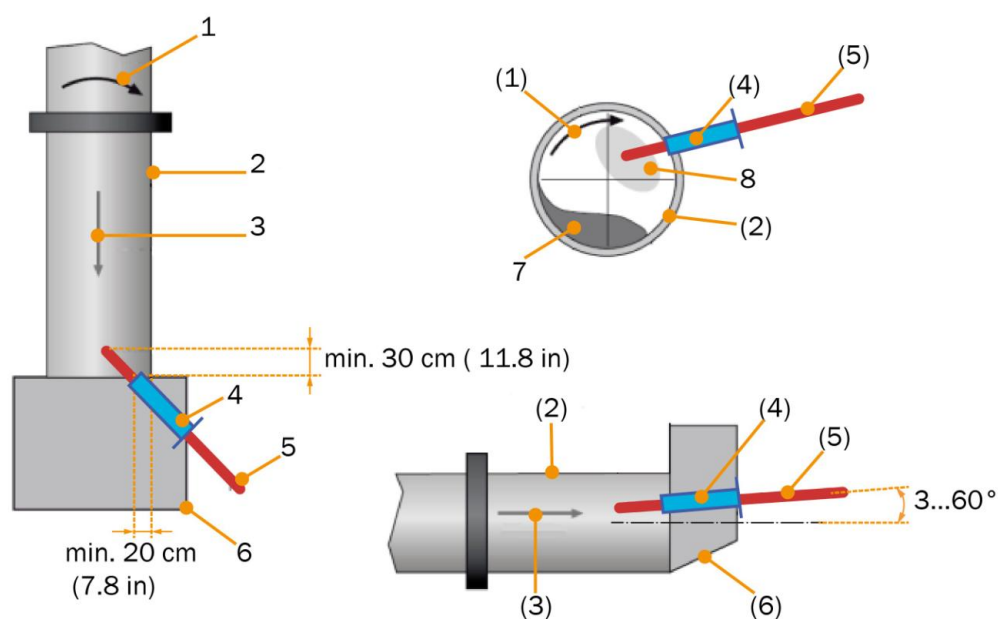
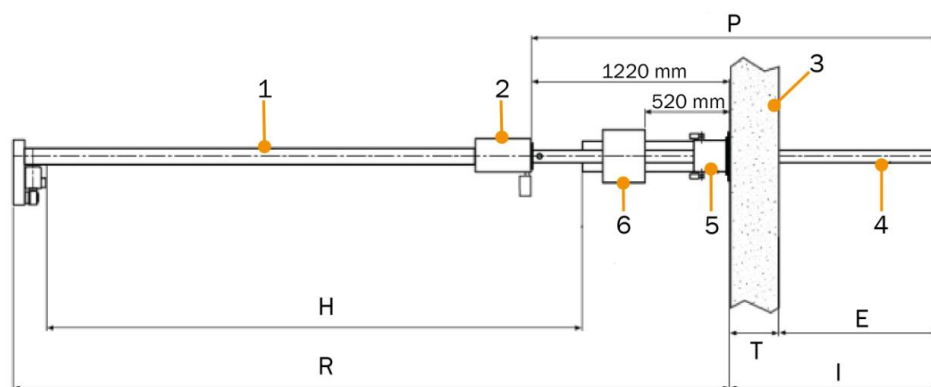

Fig. 17: Probe position in the rotary kiln
Fig. 18: SCP3000 dimensions
- ▶ The relationship between probe length, movement distance of the retraction device, and insertion depth can be derived from Fig. 17: "Probe position in the rotary kiln", page 33, Fig. 18: "SCP3000 dimensions", page 34.